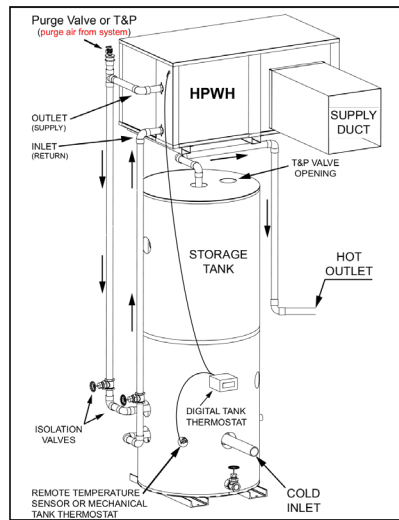
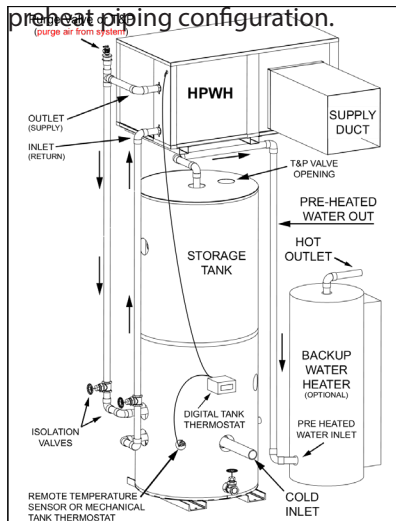

FIGURE 7
FIGURE 8
Water piping must be installed in accordance with the instructions in this manual and all local plumbing codes having jurisdiction. See Figure 7 and Figure 8 on page 16 and the Piping Diagrams on page 30 as a reference for these instructions.
4. The cold water supply must be connected directly to the storage tank at a low connection port on the storage tank on single tank and two tank preheat piping configurations for optimal efficiency. See Figure 7 and Figure 8 on page 16.
15. When the HPWH unit is installed above the storage tank install a Tee fitting at a high point in the outlet water line leaving the unit. Install a purge valve, or if required by local code, a T&P valve (temperature and pressure relief) in a branch of the Tee fitting that can be used to purge air from the HPWH unit during start up. See Figure 7 and Figure 8 on next page.
The HPWH must be plumbed to storage tank. The maximum stored water temperature the HPWH unit can produce in the storage tank is 150°F (66°C). Figure 7 shows a typical storage tank piping configuration. Tank ports must be large enough to handle the peak water flow rates through the water heating system. See Piping Diagrams on page 30 for detailed piping diagrams.
When water temperatures above 150°F (66°C) are required the HPWH and storage tank are piped in series (upstream) with a backup water heater. See Water Temperature on page 8. The backup water heater will raise the temperature of the preheated water to the final system temperature required. Figure 8 shows a typical pre-heat piping configuration.
8. Ensure the cold water supply is not connected directly to or Tee fitted to the inlet water line on the HPWH. See the Service and Installation Notes for Inlet & Outlet Water Temperature on page 8. See Figure 7 and Figure 8 on page 16.